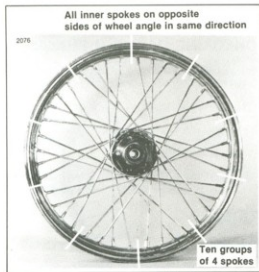

Figure 2-25. Laced Wheel
- See Figure 2-25. The rim is divided into ten groups of four spokes each. In each group, only one hole will be angled toward each upper flange inner